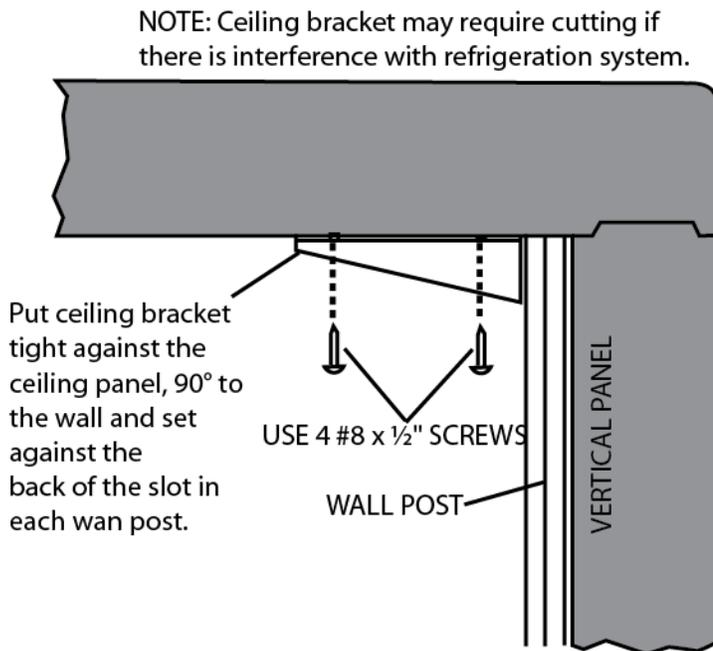

FIGURE 4
2. Place the ceiling bracket into the slot in the wall post and push the bracket up against the ceiling panel. Note that the flange of the bracket is positioned towards the shelf. The bracket must be perpendicular to the wall. Mark all holes and drill holes the same size as the holes for the post. Attach bracket using four #8 x 1/2" long sheet metal screws. See Figure 3 for parts identification and Figure 4 for mounting positions.
The same clamps are used on the ceiling bracket and the shelving bracket. See figure 3. The clamp has two identical halves which sandwich brackets and wall post. See figure 4. Clamp the ceiling brackets at each wall post using 3/8" x 1 1/2" long body bolts.